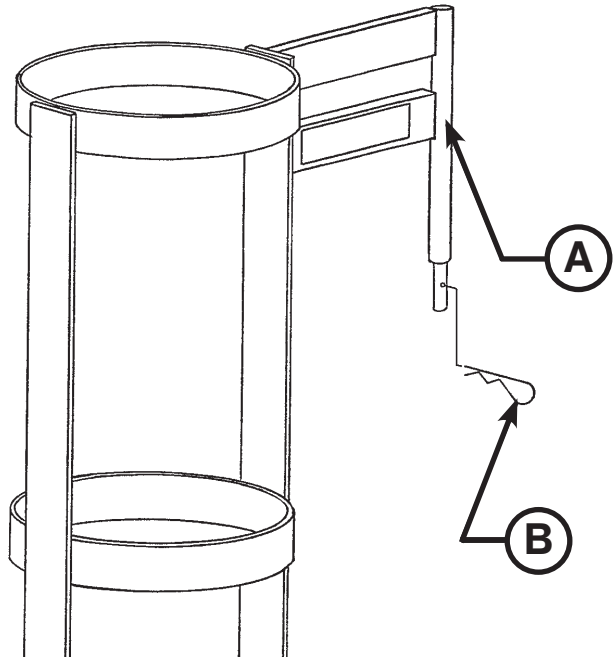

Figure 23.1: Upright Oxygen Bottle Holder
To install the upright oxygen bottle holder, insert the support bar (A) into the I.V. socket at any of the four litter corners. Insert the cotter pin (B) through the hole in the support bar to hold the bottle holder in place as shown in Figure 23.1.